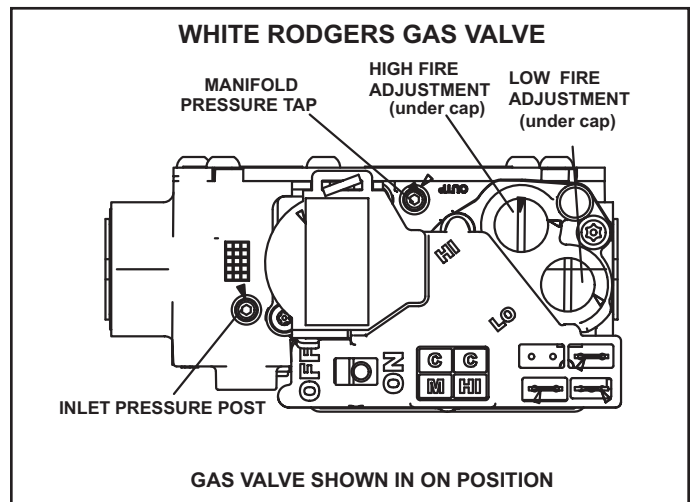

FIGURE 24
Gas Valve Operation (FIGURE 24)
- 6 - Move switch on gas valve to OFF. Do not force. See FIGURE 24.
- 8 - Move switch on gas valve to ON. Do not force. See FIGURE 24.
- 4 - Move switch on gas valve to OF. Do not force. See FIGURE 24.
An inlet post located on the gas valve provides access to the supply pressure. See FIGURE 24. Back out the 3/32 hex screw one turn, connect a piece of 5/16 tubing and connect to a manometer to measure supply pressure. See TABLE 21 for supply line pressure.
A manifold pressure tap located on the gas valve provides access to the manifold pressure. See FIGURE 24. Back out the 3/32 hex screw one turn, connect a piece of 5/16 tubing and connect to a manometer to measure manifold pressure.
- 4 - If necessary, make adjustments. FIGURE 24 shows location of high fire and low fire adjustment screws.